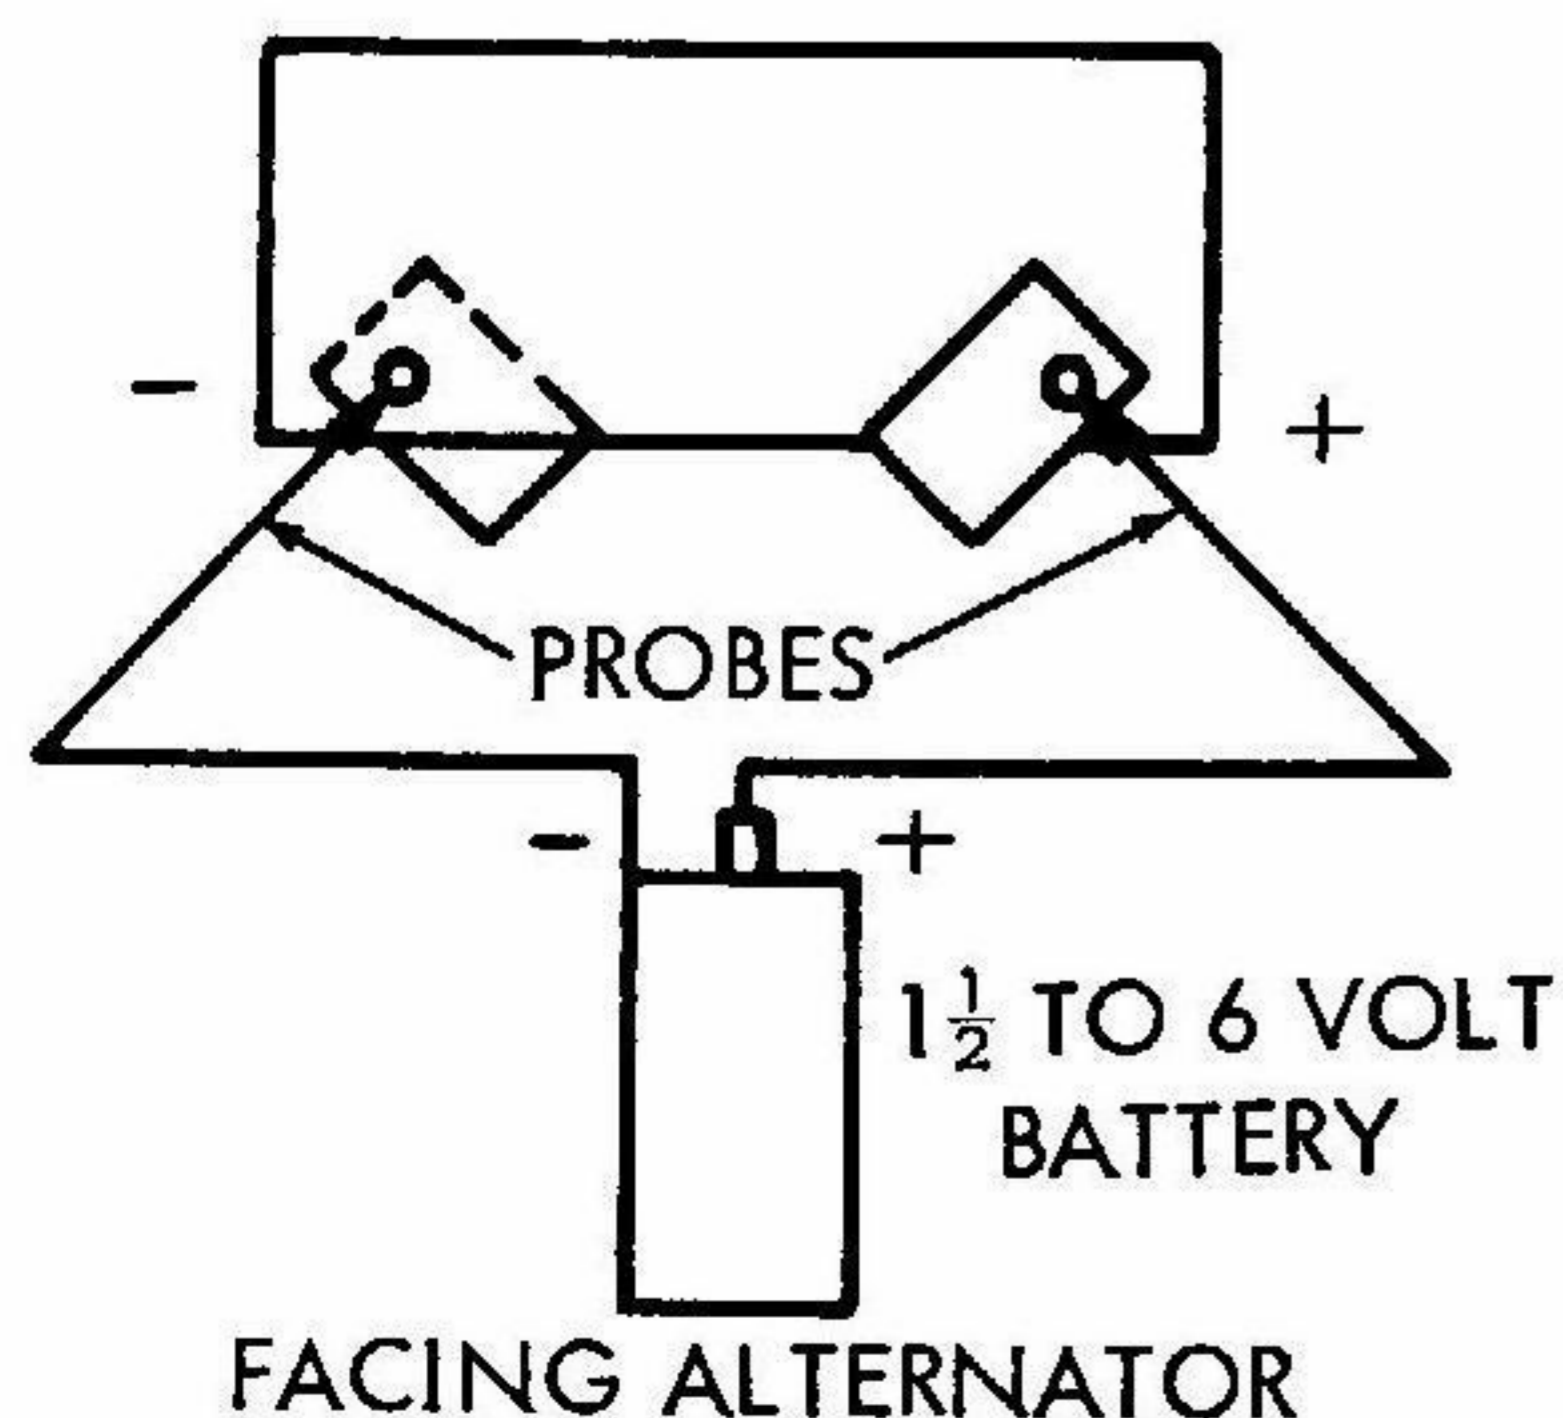

Figure 4. Flashing the Rotor - Step 3
3. Connect two wires to a 1-1/2 - 6 volt battery (figure 4) using the free ends of the wires as probes. Touch the positive wire to the positive brush and negative wire to negative brush for approximately one second.